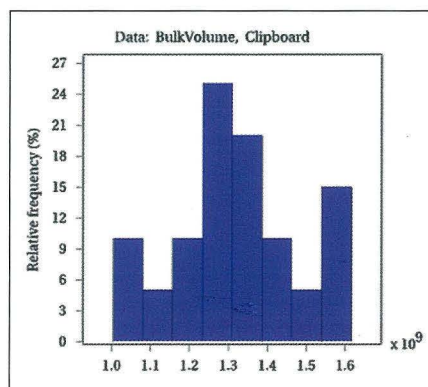

Fig. 4.
- The predicted reserve uncertainty span is based on a sound geostatistical study (Figure 4).